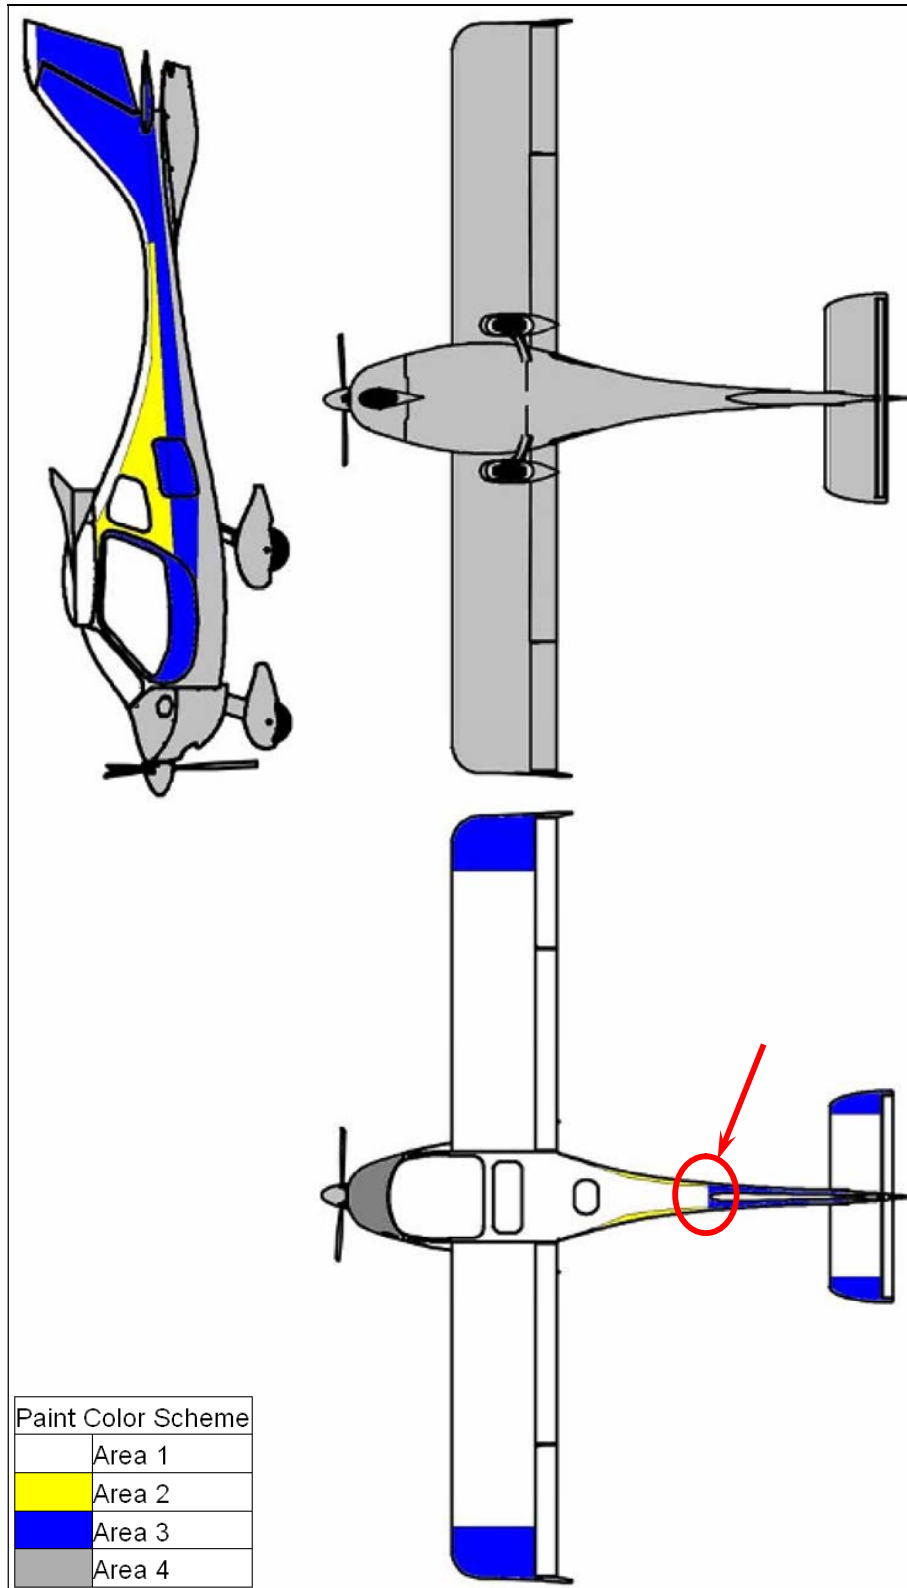

Fig. 51-20-1
Since full strength of the fiber composite structure has only been shown up to a temperature of 54°C (129°F), the outer surface of the airplane must be painted white. Exceptions are registration markings and warning marks, which are subject to the following restrictions (refer to Fig. 51-20-1):
- **Note:** No black stripes are allowed in front of the vertical tail, across the top of the fuselage (indicated on Fig. 51-20-1).